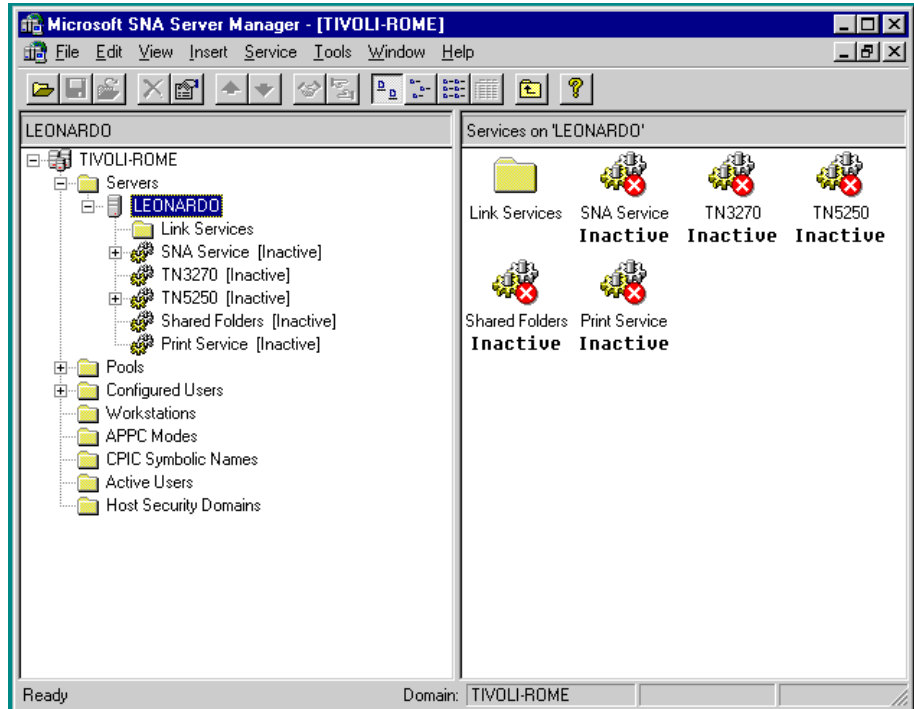

Figure 40. Microsoft SNA Server Manager
- 2 From the Microsoft SNA Server Manager window select the server, as shown in Figure 40.